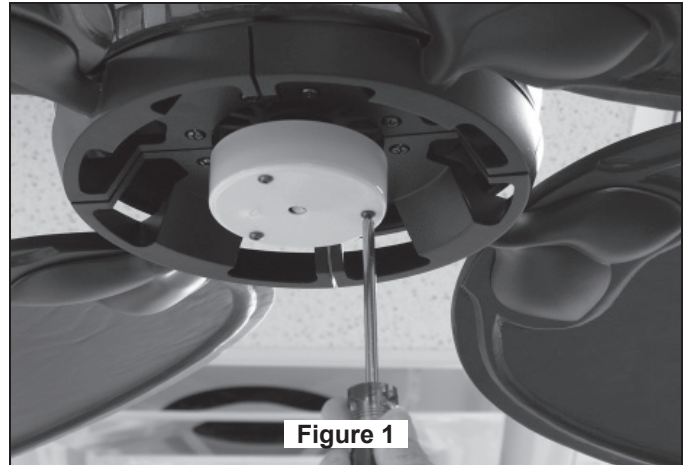

Figure 1
3. With a Phillips screwdriver, tighten washer-head screws with metal and fiber washers to secure the blade. (Figure 1)
1. Remove and discard Shipping Support Cup. (Figure 1)